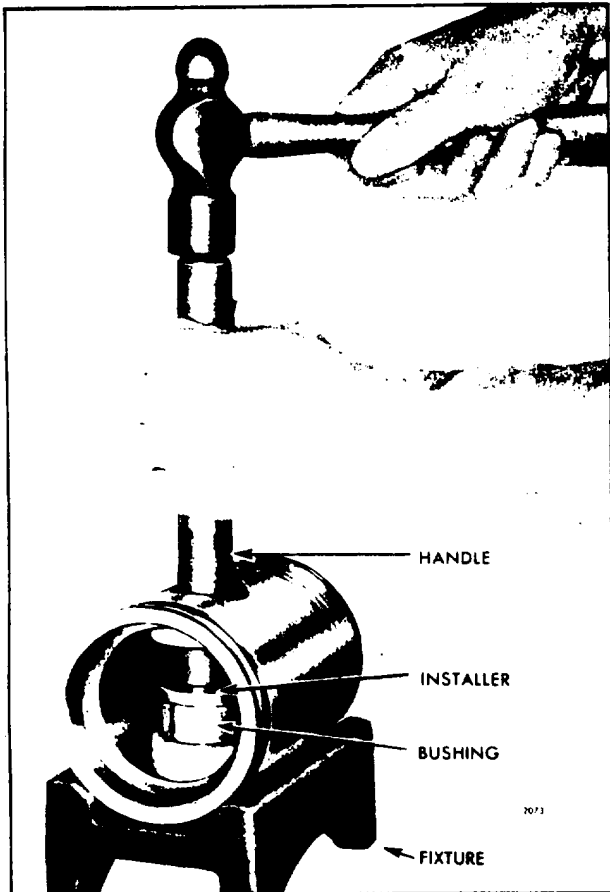

Fig. 5. - Removing or Installing Piston Pin Bushings
2. Drive each bushing from the piston with the bushing remover J 49724 and handle J 1513-2 in the manner illustrated in Fig. 5.